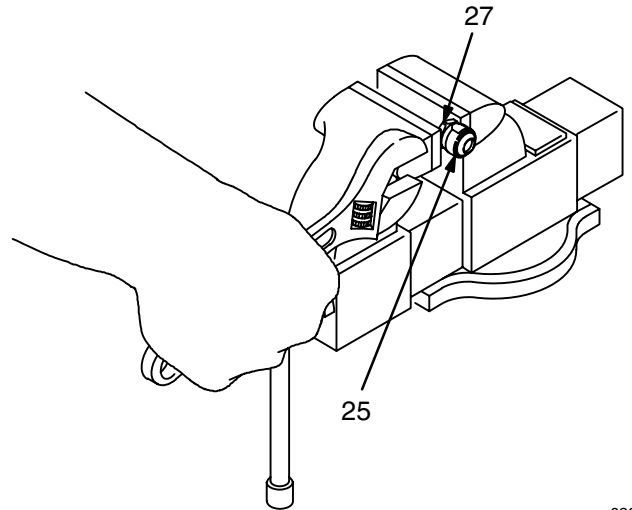

Fig 5
16. To disassemble the intake check valve assembly (U), place the nut (27) in a vise and unscrew the intake valve body (25) from the nut, using a 25 mm wrench. See Fig 5. Remove the seal (41) from the nut (27) and the other seal (26) from the valve body; always replace them with new ones. Inspect the mating surfaces of the intake valve body (25) and seat (18) for wear, scoring, or other damage.
- NOTE:** The seal (41) is press-fit in the nut (27), and may require cutting with a razor to ease removal.